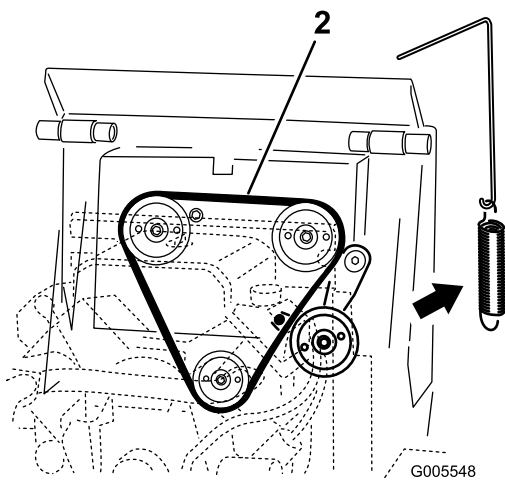

Figure 47
4. Remove the idler pulley spring from the idler pulley assembly (Figure 47).
6. Install a new drive belt around the three pulleys (Figure 47).